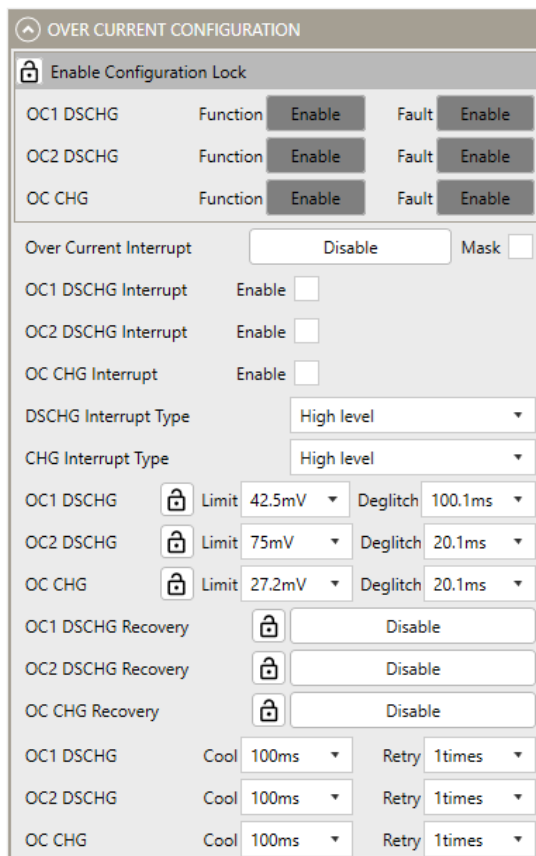

Figure 18: Over-Current Configuration
10. Figure 18 shows the Over-Current Configuration settings in the GUI.